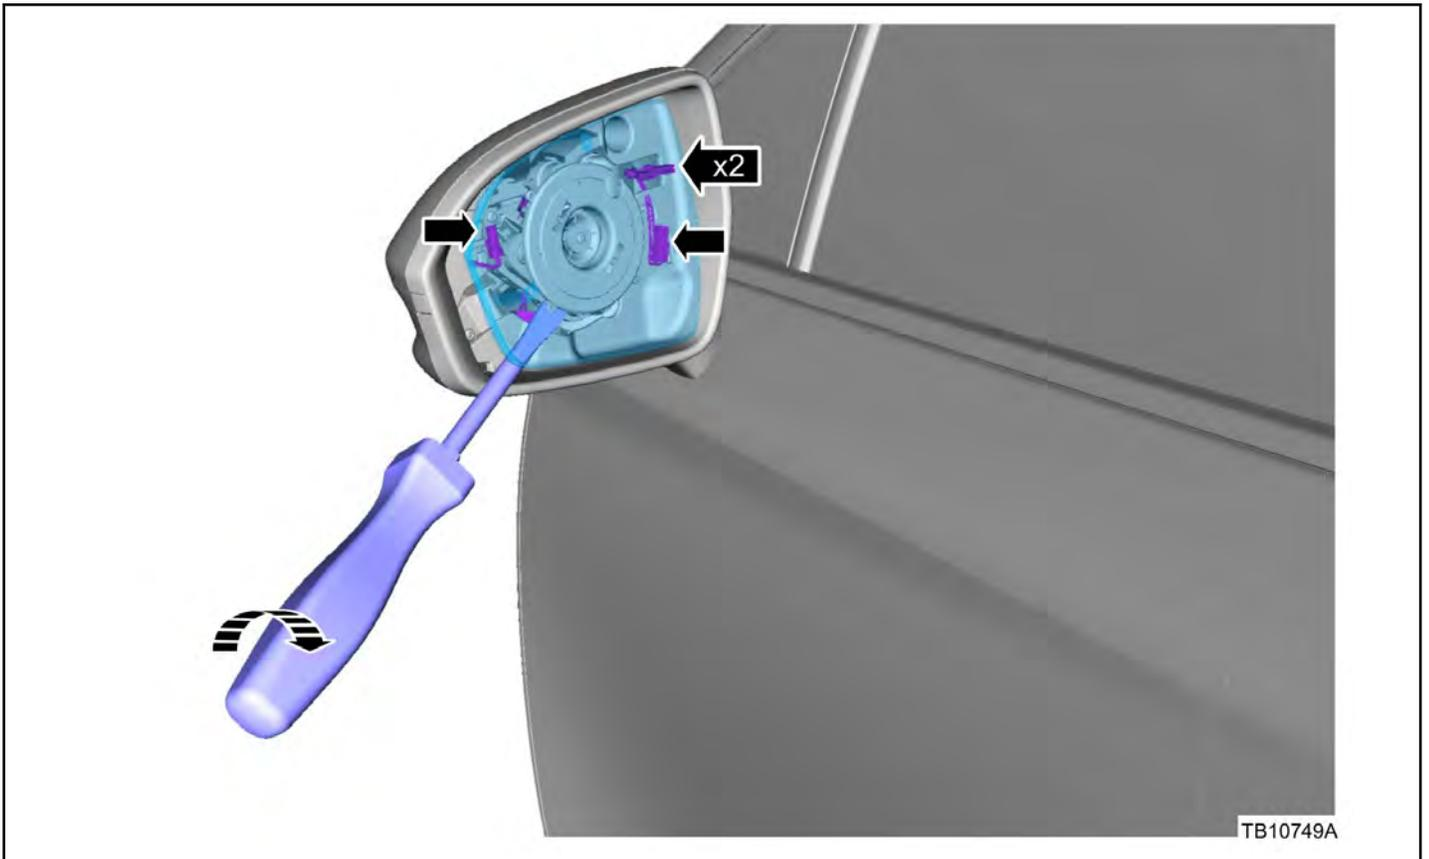

Figure 2 - Article 15-0159
2. Release the mirror glass and disconnect the electrical connectors. Use of a non-marring plastic trim tool is recommended to release the mirror glass. (Figure 2)